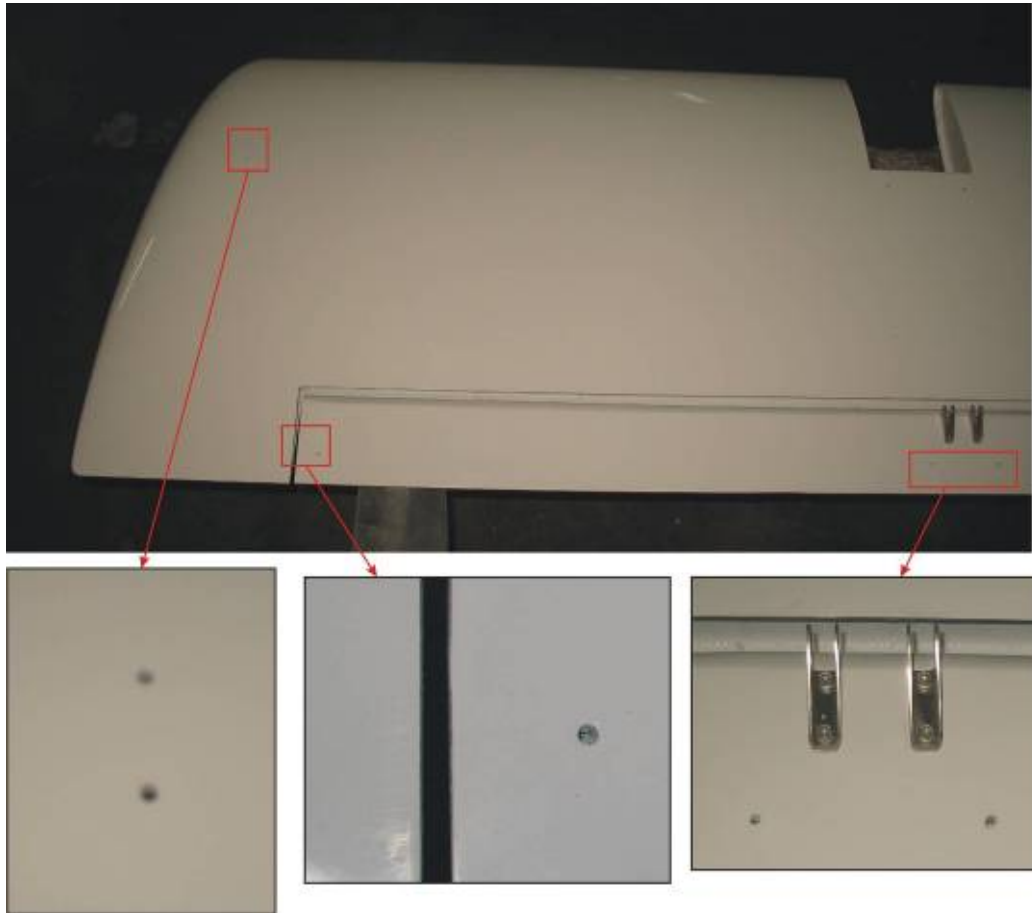

Fig. 55-20-13
C. Drain Holes Inspection (Fig. 55-20-13)